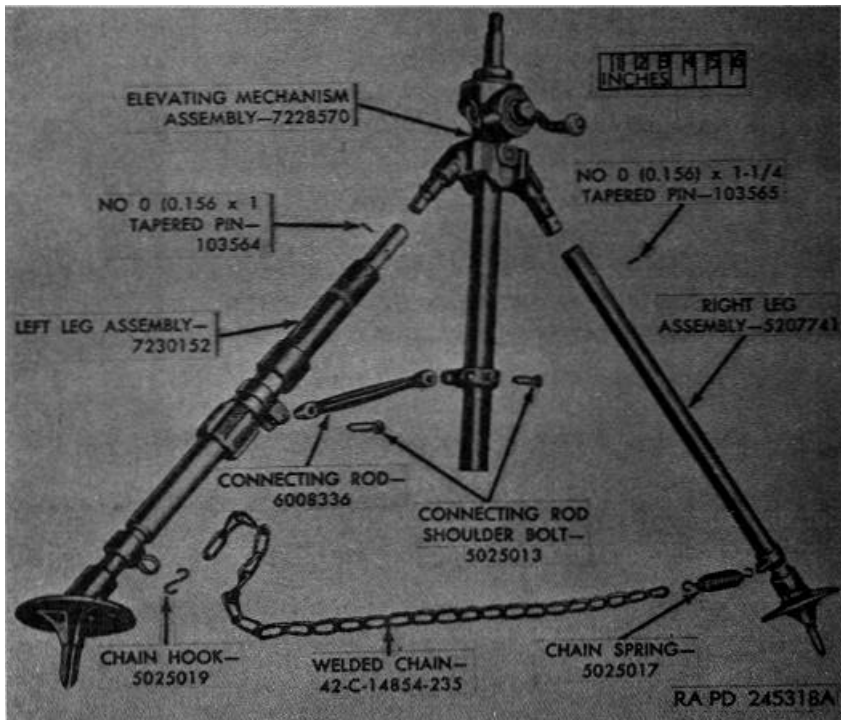
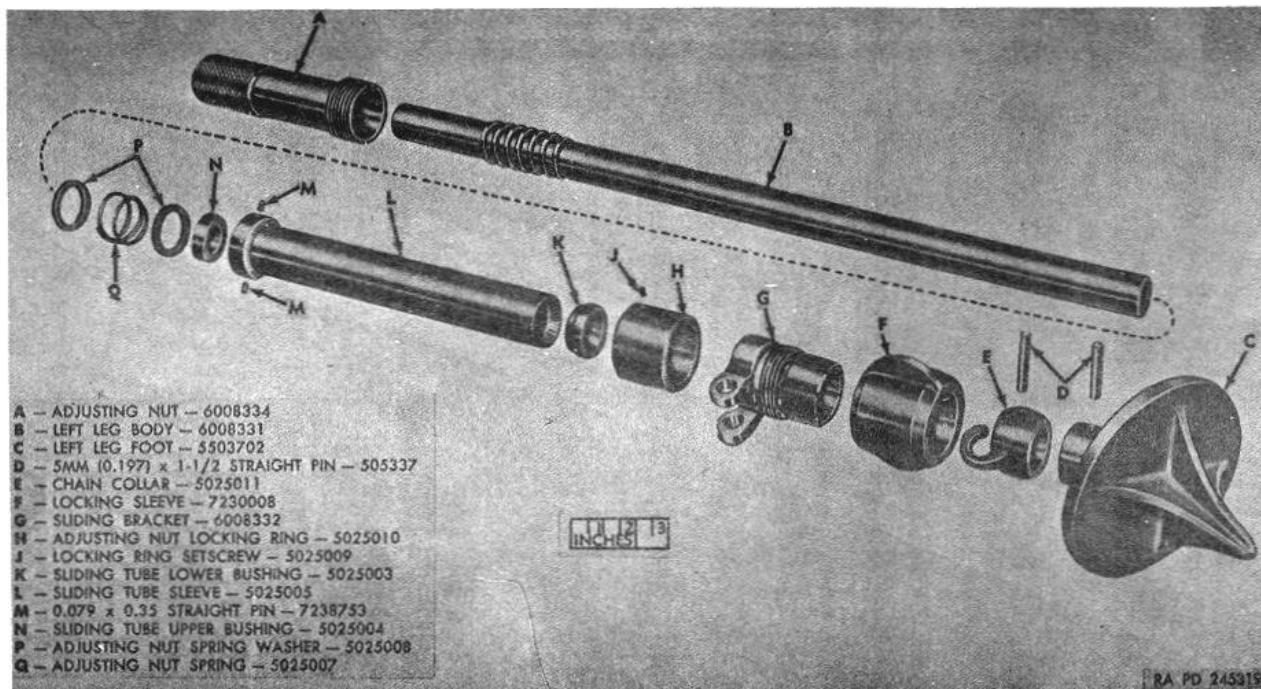
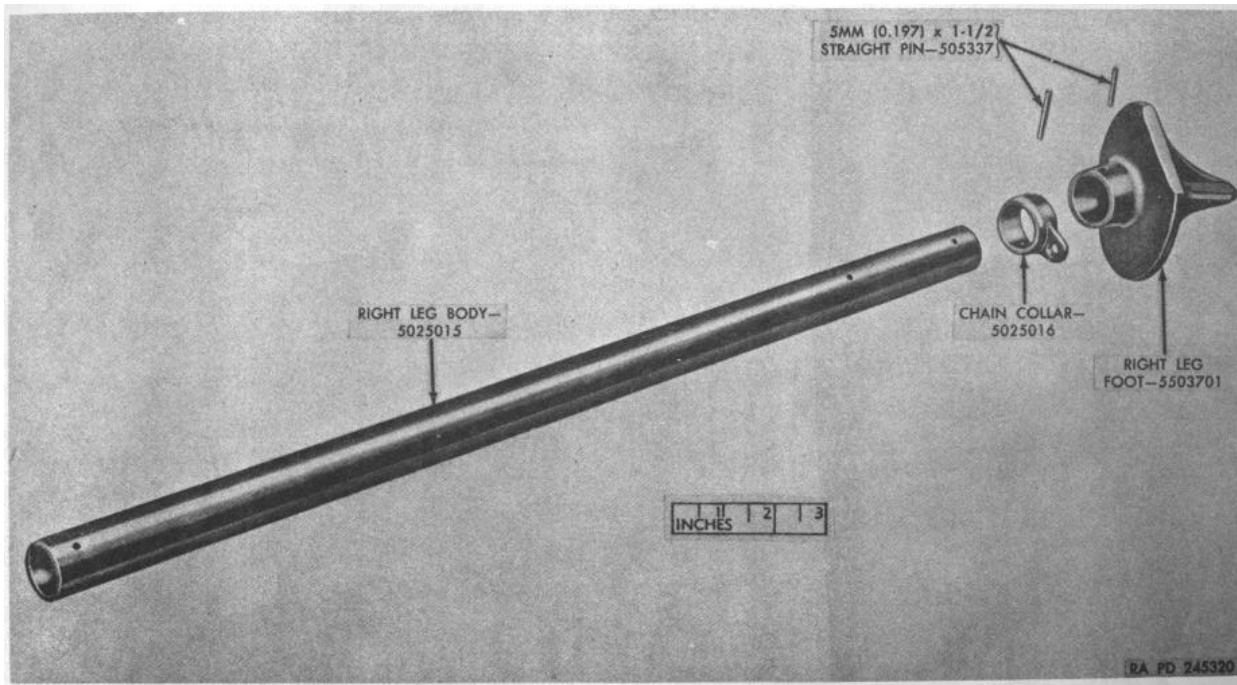

Figure 33. Leg group--81-mm mortar mount M4--exploded view.
Figure 34. Left leg assembly 7250152-exploded view.
Figure 35. Right leg assembly 5207741-exploded view.
b. Remove stake and unscrew connecting rod shoulder bolts from both ends of the connecting rod (fig. 33). Remove chain, chain hook, and chain spring from left and right leg assemblies (fig. 33). Drive out the tapered pin at top of each leg assembly and remove the legs from the elevating mechanism assembly (fig. 33).
The key letters shown in (1) through (4) below in parentheses refer to figure 34.
- (1) Remove the locking ring setscrew (J) and unscrew the adjusting nut locking ring (H).
- (2) Unscrew adjusting nut (A) from leg body (B).
- (3) Drive out the straight pins (D) which secure the left leg foot (C) and chain collar (E); heat foot and collar until the solder is melted and slide them off the leg body.
- (4) Slide the locking sleeve (F), sliding bracket (G), adjusting nut locking ring (H), sliding tube sleeve (L) with lower and upper bushings (K and N), adjusting nut spring (Q), and adjusting nut spring washers (P) off the left leg body.
d. To disassemble the right leg assembly, drive out the straight pins which secure the right leg foot and chain collar, heat foot and collar until the solder is melted, and slide them off right leg body (fig. 35).
- a. To assemble right leg assembly (fig. 35), proceed as outlined in (1) and (2) below.
- (1) Assemble chain collar and right leg foot with new 5-mm (0.197) x 11/2 straight pins on right leg body and then solder.
- (2) Secure right leg assembly to elevating mechanism assembly (fig. 33) with new No. 0 (0.156) x 11/4 tapered pin.
- b. To assemble left leg assembly, proceed as outlined in (1) through (9) below.
Note. The key letters shown below in parentheses refer to figure 34.
- (1) Slide the following on the left leg body, in the order listed: adjusting nut spring washer (P), adjusting nut spring (Q), adjusting nut spring washer (P), sliding tube sleeve (L) with sliding tube lower and upper bushings (K and N) assembled and pinned (flanged end leading), adjusting nut locking ring (H) (larger opening leading), sliding bracket (G) (solid end leading), and locking sleeve (F) (threaded end leading).
- (2) Screw locking sleeve (F) on sliding bracket (G).
- (3) Slide chain collar (E) (open end of hook leading) on leg body. Drive in 5-mm (0.197) x 11/2 straight pin (D) through chain collar and leg body.
- (4) Slide left leg foot (C) on left leg body (B) (spike pointing same direction as chain hook on collar) and drive in 5-mm (0.197) x 11/2 straight pin (D) through foot and leg.
- (5) Solder chain collar (E) and left leg foot to left leg body.
- (6) Slide adjusting nut (A) (external threaded end leading) on left leg body. Screw adjusting nut into adjusting nut locking ring (H) and secure with locking ring setscrew (J).
- (7) Secure left leg assembly to elevating mechanism assembly (fig. 33) with new No. 0 (0.156) x 1 1/4 and No. 0 (0.156) x 1 tapered pin.
- (8) Secure connecting rod (fig. 33) with connecting rod shoulder bolts (fig. 33); stake bolts.
- (9) Install welded chain with chain hook to left leg assembly and chain spring to right leg assembly (fig. 33).
b. Remove stake and unscrew connecting rod shoulder bolts from both ends of the connecting rod (fig. 33). Remove chain, chain hook, and chain spring from left and right leg assemblies (fig. 33). Drive out tapered pin at top of each leg assembly and remove legs from the elevating mechanism assembly (fig. 33).
Note. The key letters shown in j, k, and l below in parentheses refer to figure 33.
j. Secure right and left leg assemblies to elevating mechanism assembly (fig. 33) with new No. 0 (0.156) x 11/ and No. 0 (0.156) x 1 tapered pins.
l. Secure connecting rod with connecting rod shoulder bolts (fig.33); stake bolts.